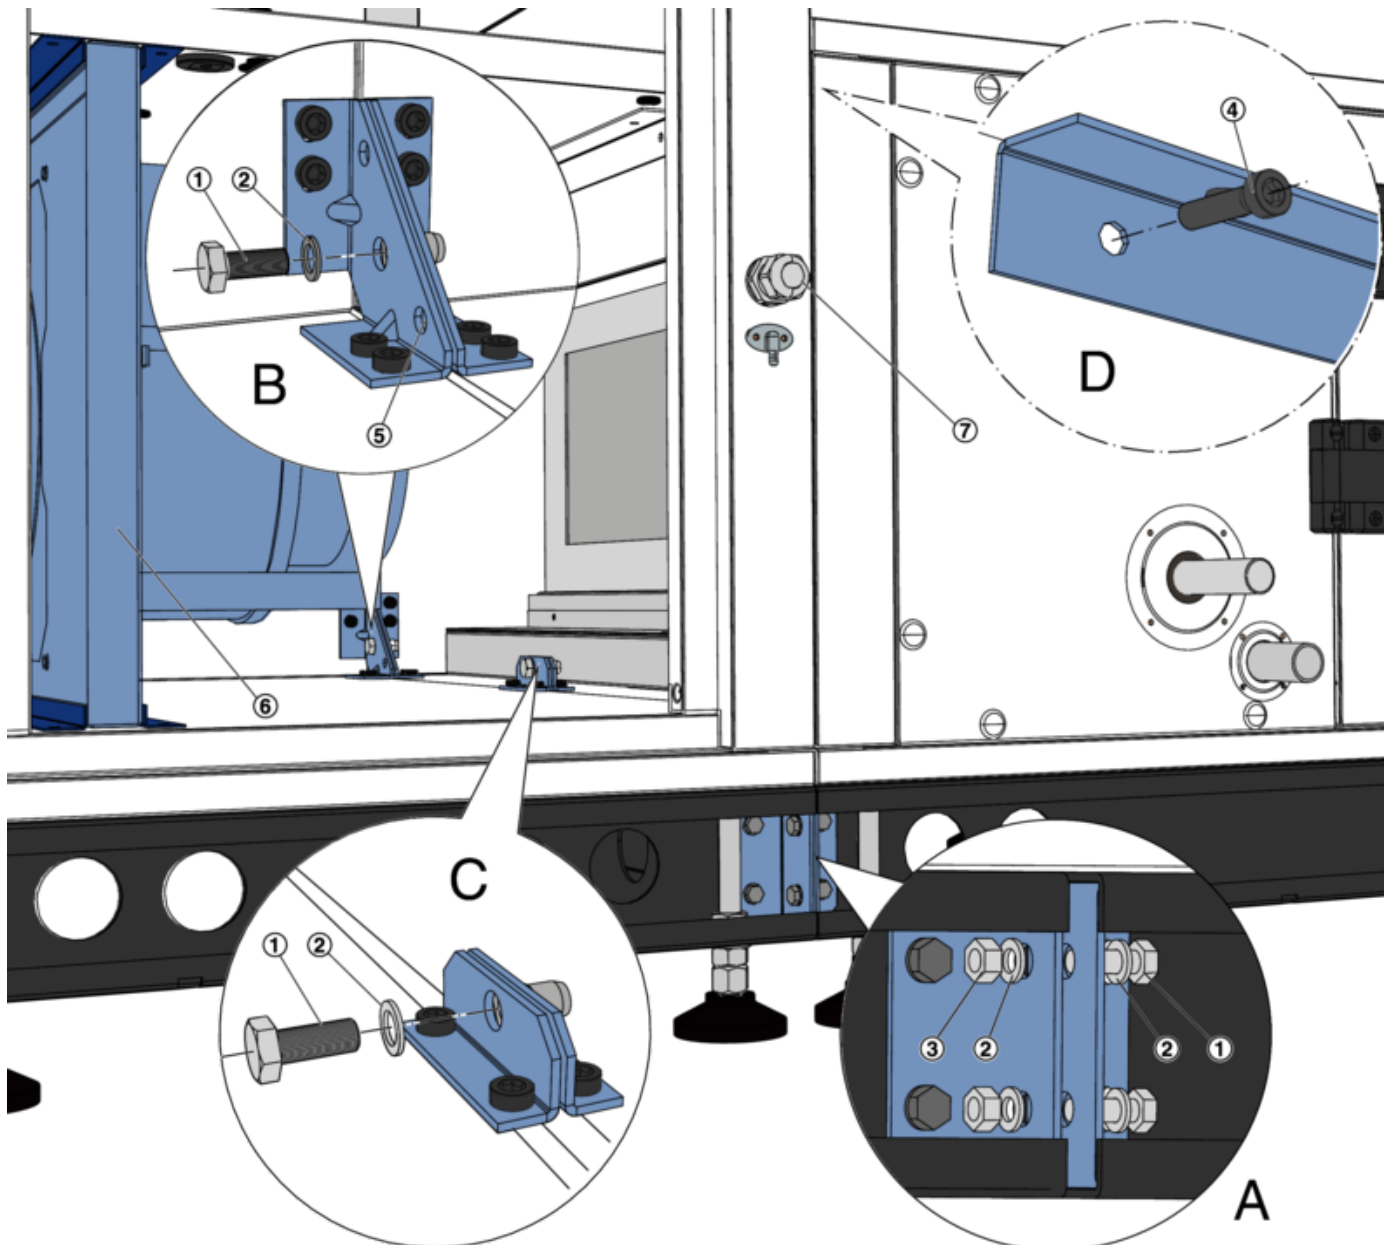

Fig. 21: Attaching the accessory module to the device
1. ▶ Position the accessory module in such a way that the holes of the fixing points are flush (Fig. 21).
- End faces of the base frames (Fig. 21 /A)
- Gusset plates, in each corner (Fig. 21 /B)
- Bracket (Fig. 21 /C)
- Bracket (Fig. 21 /D)
Size R/P015 to R/P050 - For better accessibility of the connection points, the fan mounting plate (Fig. 21 /6) can be pulled out completely.
3. ▶ Connect the accessory module to the earth; use the hexagon head screw (Fig. 21 /1) on the lower gusset plate on the operating side for this purpose.